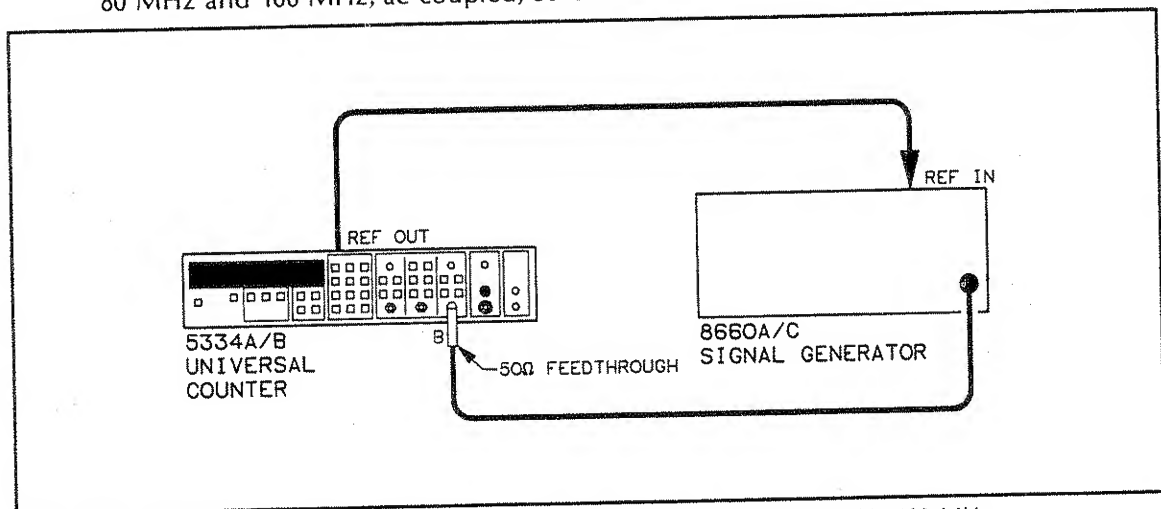

Figure 4-5. Channel B Frequency and Sensitivity Setup, 80 MHz-100 MHz
3. Connect the signal generator to the HP 5334A/B Input B using a 50 Ohm feedthrough connector as shown in Figure 4-5.